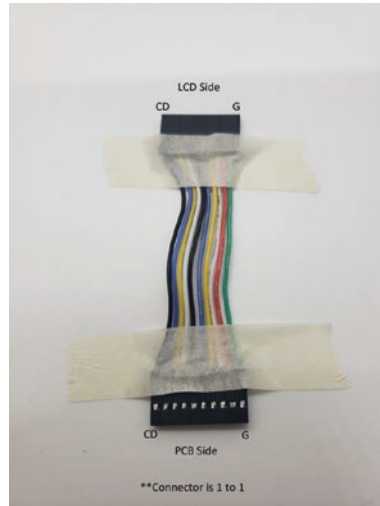

Figure 8-54. *LCD cable*
10. Create the wire harness for the LCD using 2 x 10 position dupont headers and 20 female dupont crimps. You will also need 10 x 3in 24 AWG stranded wire. See Figure 8-54. Use the same method to create the wiring harness as you did in the previous step.